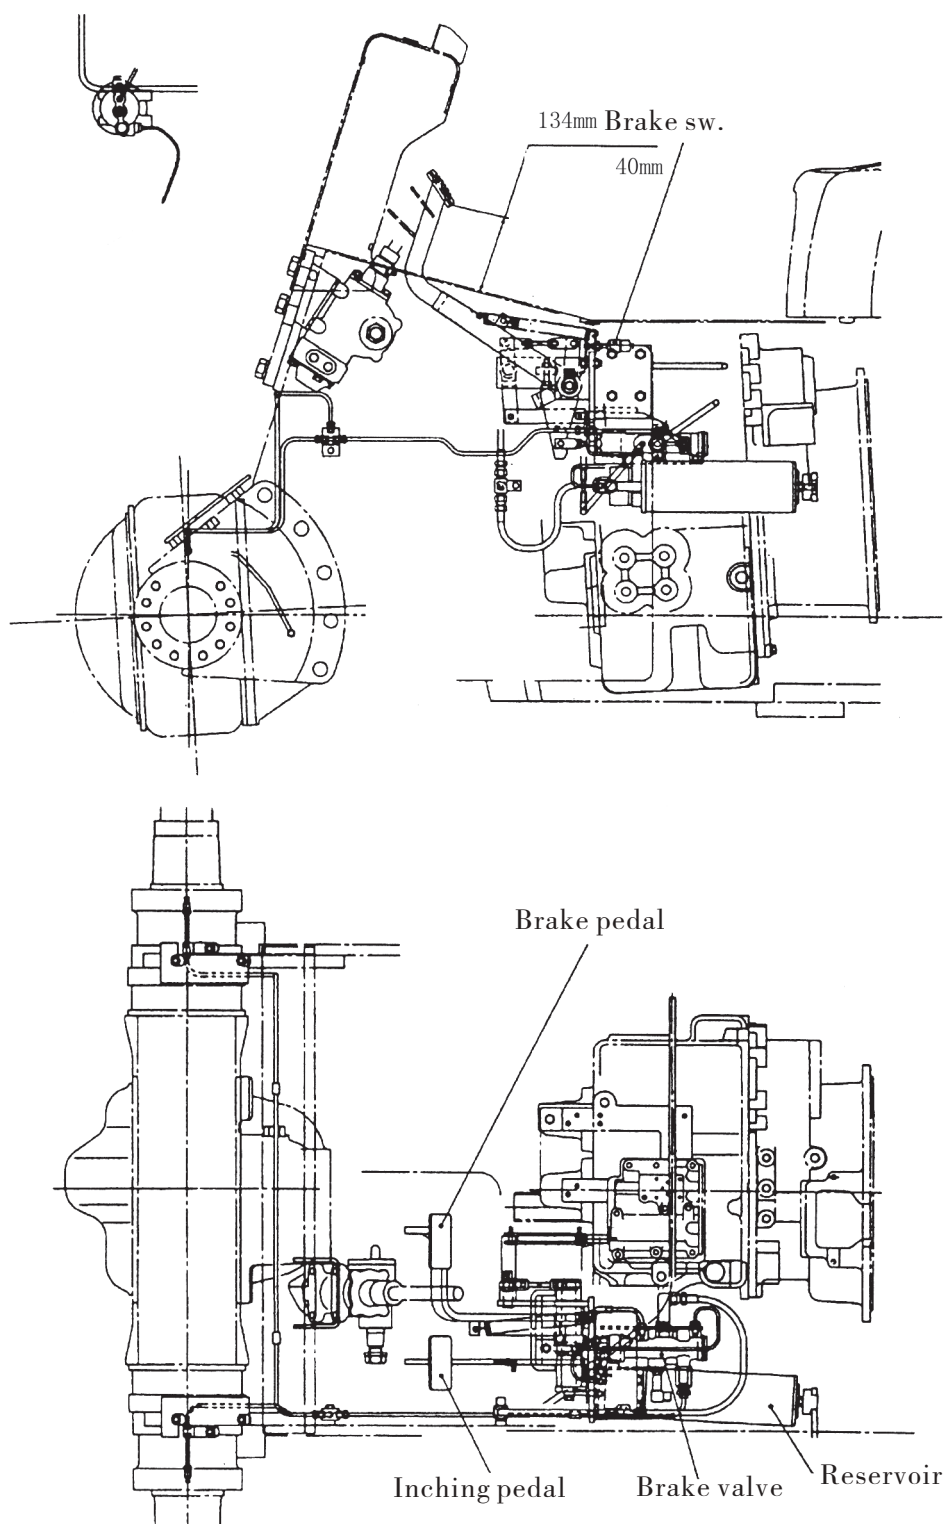

Fig.5.2 Brake pedal unit
5.2.1 Brake pedal device (See Fig. 5.2)